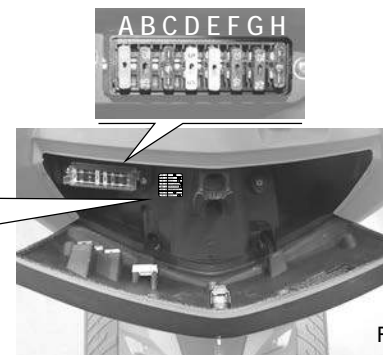

Fig. 43
- The electrical equipment includes eight fuses protecting the main components against faults. These are located in the glove compartment (Fig. 43). They are: